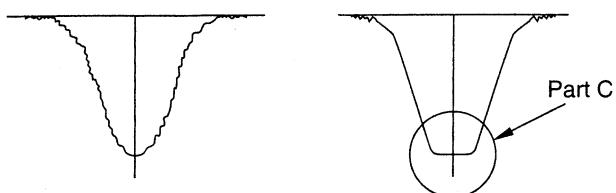

Fig. 26
(1) When the signal from the signal generator is weak, make adjustment until the waveform becomes maximum and symmetrical as shown in Fig. 26.